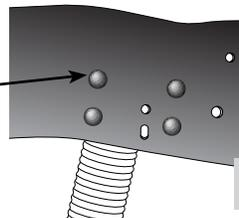

fig. 5
2. On 2005 models it will be necessary to remove the top rear shock bracket rivet (on the passenger side only) to mount the upper bracket (fig. 5).
1. Remove the rear, top shock mounting rivet on the passenger side of the vehicle to provide a mounting hole for the upper bracket (see fig. 5).